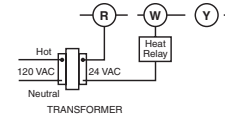

Figure 5. Typical wiring for single transformer heating system
- For two wire systems (Heat Only or Cool Only):** Replace subbase with wallplate. If you have a two-wire **Heat Only** system, attach one wire to **R** and one to wire **W**. If you have a two-wire **Cool Only** system, attach one wire to **R** and one to wire to **Y**. Tighten any unused terminals securely. (see Fig. 5 and 6).